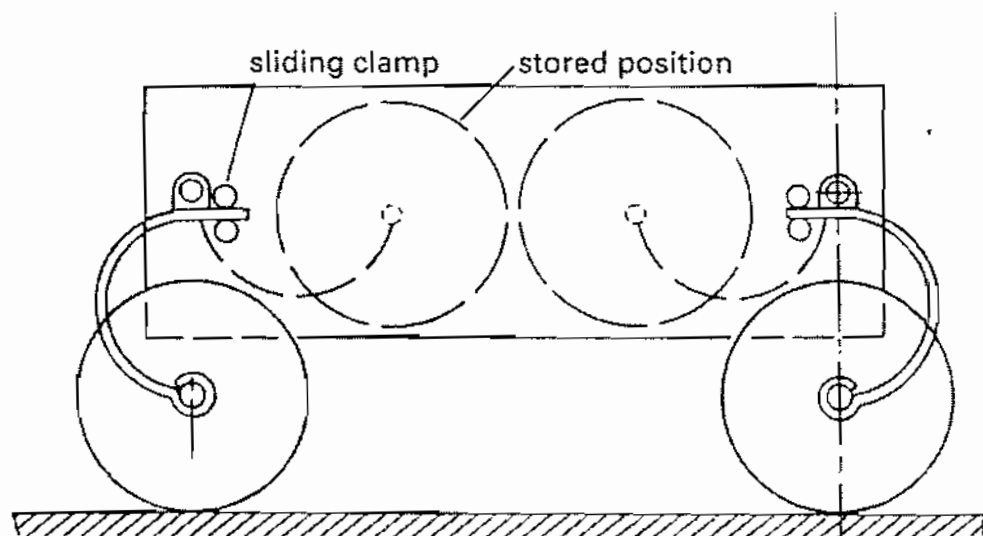

Figure 6
6. The flexible support proposed for an extraterrestrial vehicle consists of four wheels and semicircular springs, readily unfolded from the body of the vehicle after landing and then clamped in the position shown in Figure 6. Determine the following in terms of E , I , vehicle weight W and spring radius r .
- (i) The downward deflection of the vehicle. (10)
- (ii) The horizontal motion of a wheel due to the vehicle weight only. (8)